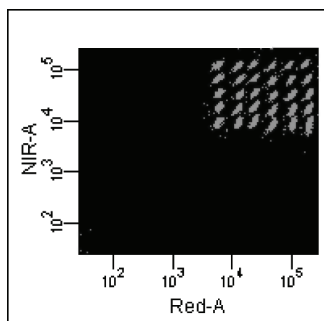

Figure 1
- Multiple bead populations that can be used individually or multiplexed as needed (See **Figure 1** below).